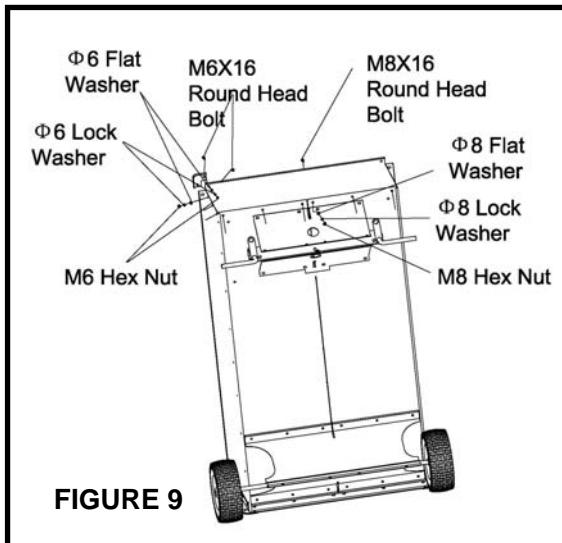

FIGURE 9
22. Connecting the front panel with the bottom panel by using six M8X16 round head bolts, Ø8 lock washer, Ø8 Flat Washer and M8 hex nuts. Then Connecting the front panel with the side panel by using six M6X16 round head bolts, Ø6 lock washer, Ø6 Flat Washer and M6 hex nuts. See **Figure 9.**
23. Assemble two corner caps to the front of the cart using four M6X16 round head bolts , Ø6 lock washer, Ø6 Flat Washer and M6 hex nuts. Tighten. See **Figure 9**.